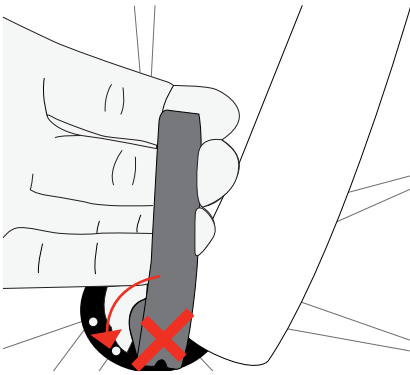

Figure 39. Make sure the lever does not turn.
- + Test B. Make sure the quick-release lever can not be turned in a circle (Figure 39).